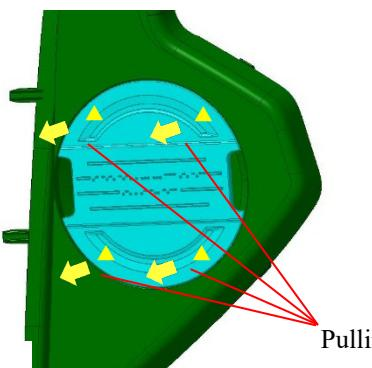

Fig. 2-1
- Remove the Cover at driver side Instrument panel by pulling the Cover / disengaging the hooks located at the Cover and (Fig. 2-1).